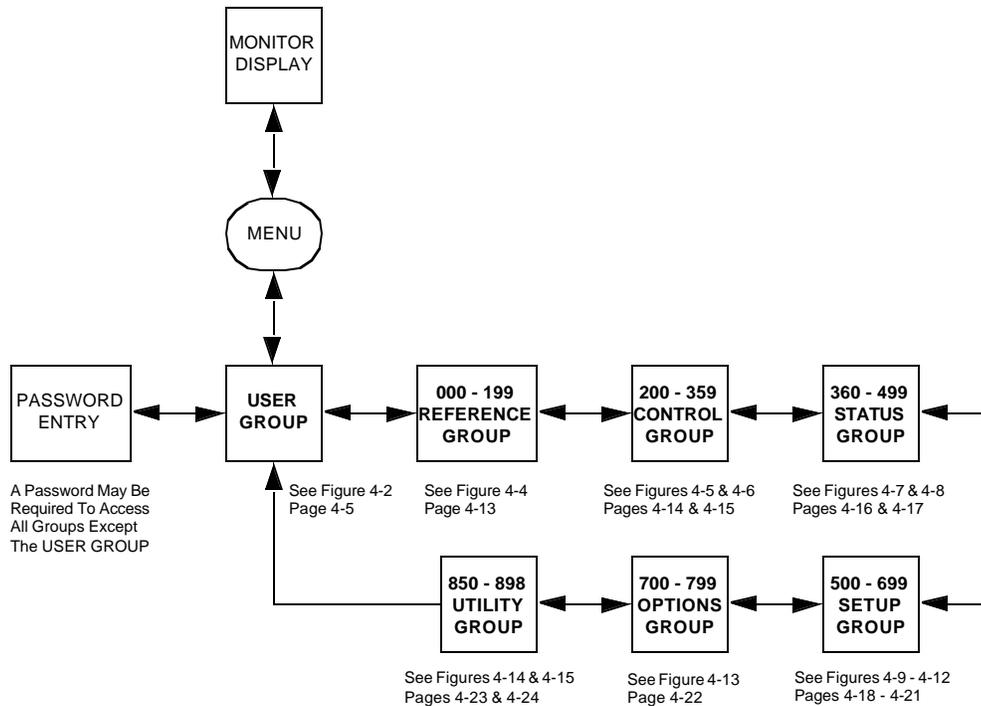
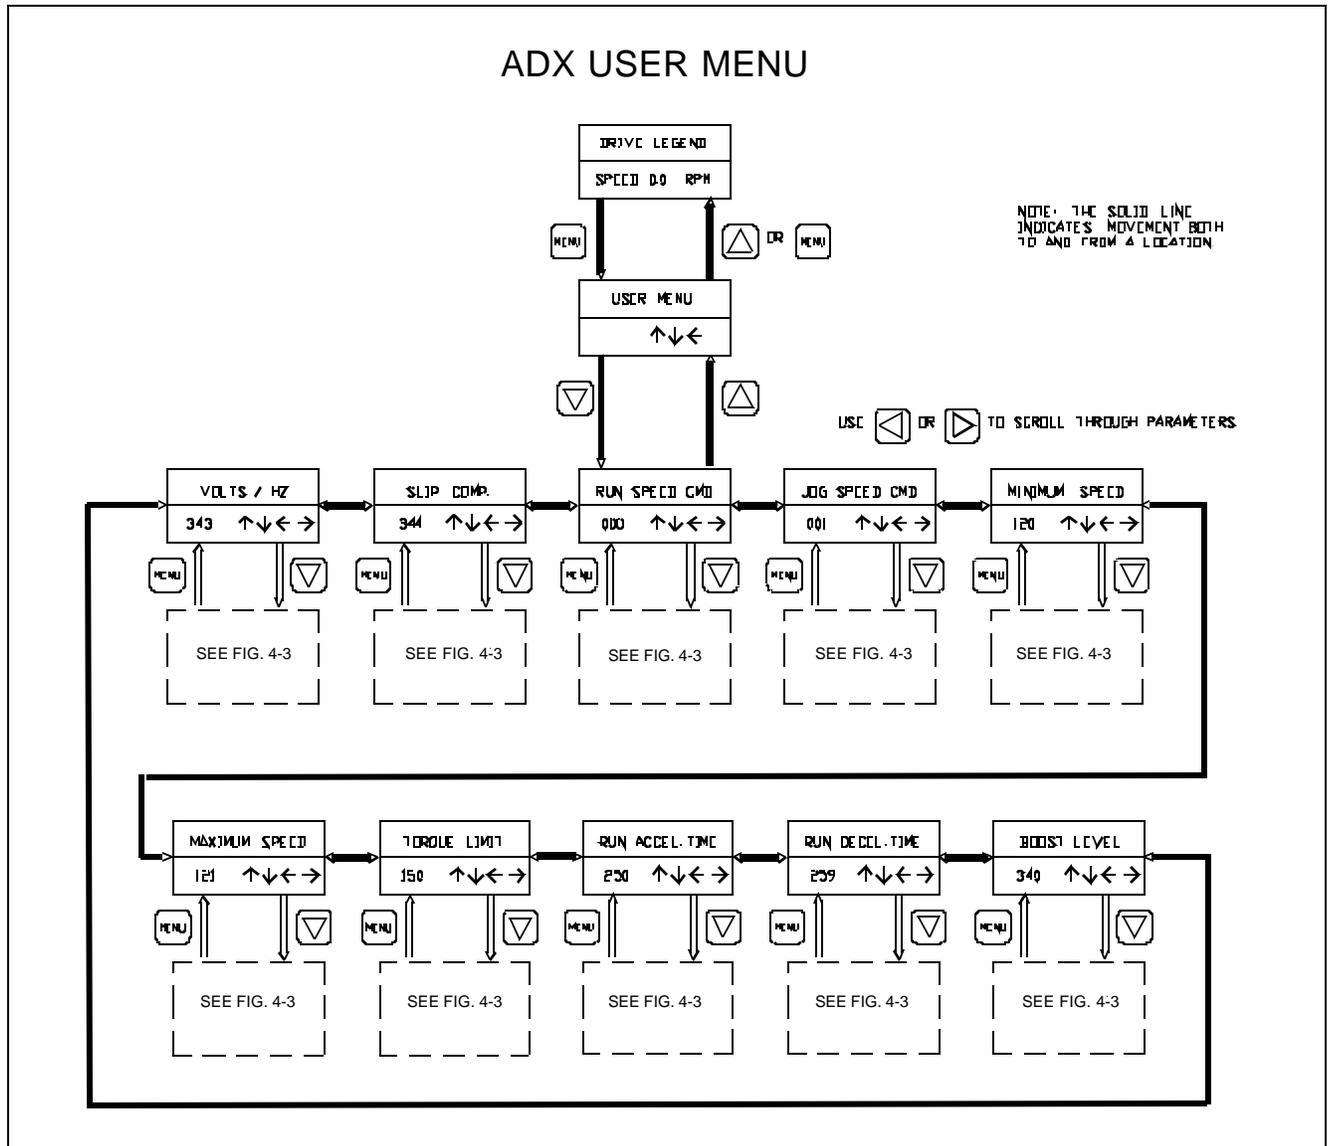
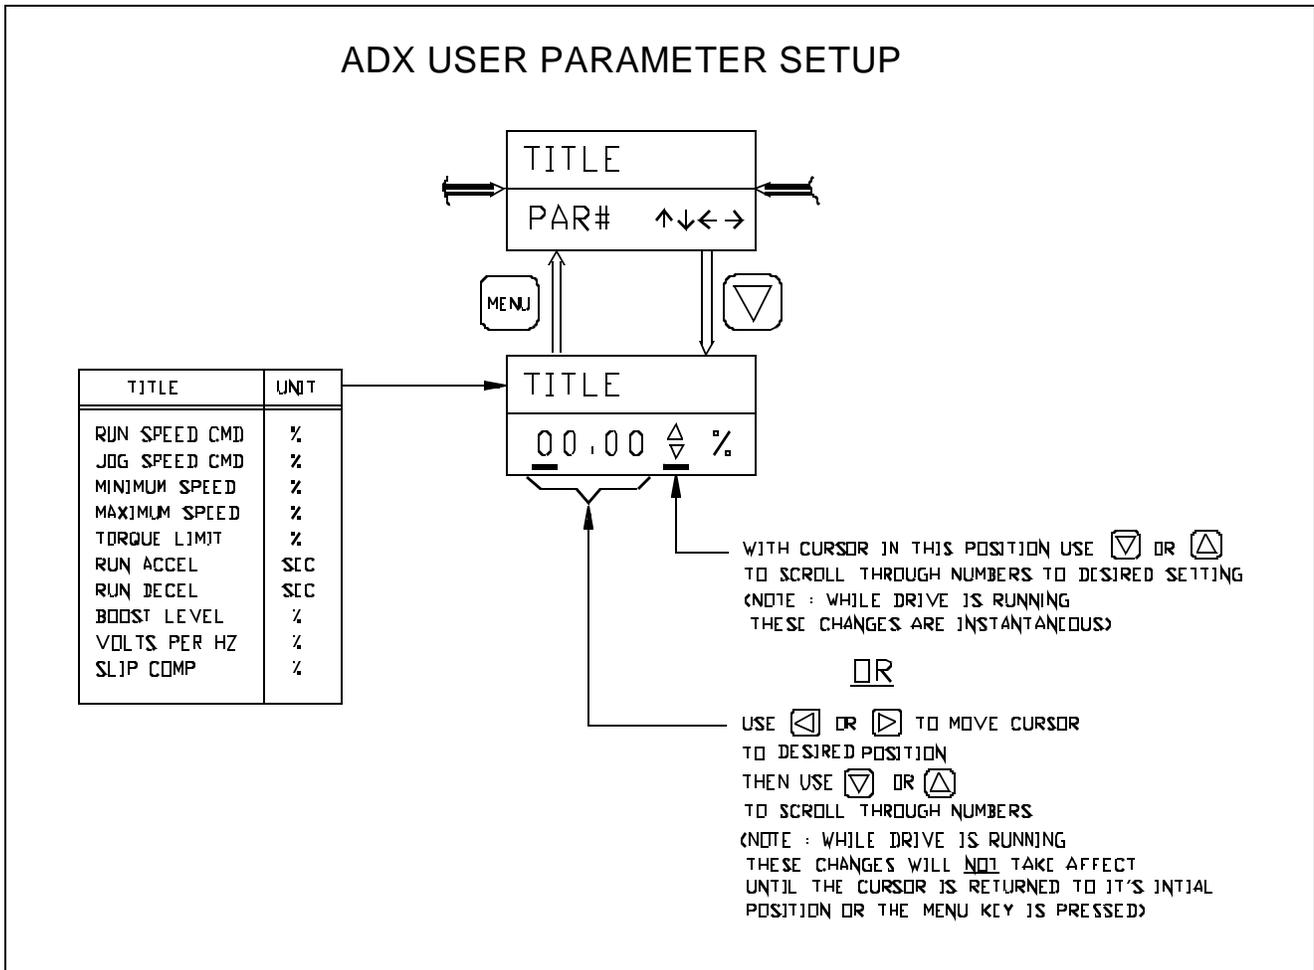

FIGURE 4-1. ADX CONTROLLER PARAMETER GROUPS
FIGURE 4-2. USER GROUP FLOW CHART
FIGURE 4-3. USER PARAMETER ADJUSTMENT INSTRUCTIONS
- **MENU Key** - The MENU key allows the user to toggle between the controller menu structure and the display. The main groups in the controller menu structure are shown in Figure 4-1, page 4-1. The MENU key also causes the controller to respond to changed parameter values. If a User Group (see Figure 4-2, page 4-5) parameter value is changed, the MENU key enters the value into the controller memory. But if the changed parameter value is not in the User Group, the value will return to the factory preset value when power is removed from the controller unless the value is saved as described in “Saving Parameter Values,” page 4-10.
When the controller is not operating the motor, the arrow keys (   ) allow the user to page through the controller menu structure. Figure 4-1 (page 4-1) shows the main groups in the menu structure, and Figures 4-4 through 4-15 (pages 4-13 through 4-24, respectively) show the entire menu structure. The arrow keys allow the user to access any parameter in the menu structure and to change parameter values or selections. For further information on using the arrow keys to access parameters and make changes, see “Accessing Parameters,” page 4-9.
Adjustments can be made to the ADX controller by changing the values of various parameters. These parameters are located in a tree-like arrangement commonly known as a menu structure. Parameters with similar characteristics or functions are located in common groups. The ADX controller contains the parameter groups shown in Figure 4-1.
The three-digit numbers shown in each group in Figure 4-1 are the parameter numbers in that particular group. For example, the Control Group contains Parameters 200 through 359. These numbers are especially helpful in quickly stepping to a specific parameter.
3. To change a User Group parameter value, refer to Figure 4-2 (page 4-5) and then push the MENU key. The display should read as follows:
6. To change additional parameter values, push the or key to scroll through the parameters shown in Figure 4-2. The procedure to change or adjust any parameter shown in Figure 4-2 is the same as that described for Maximum Speed. Also see Figure 4-3, page 4-6.
A description of the parameters shown in Figures 4-2 and 4-3 follows.